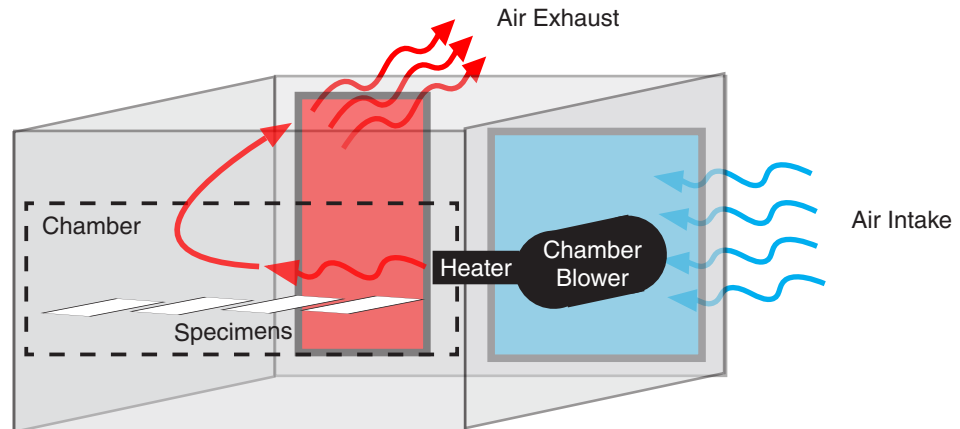

Figure 8.3a: Schematic front view Xe-1 air circulation.
- The black panel temperature is controlled using a variable speed blower and an electric heater (Figure 8.3a).